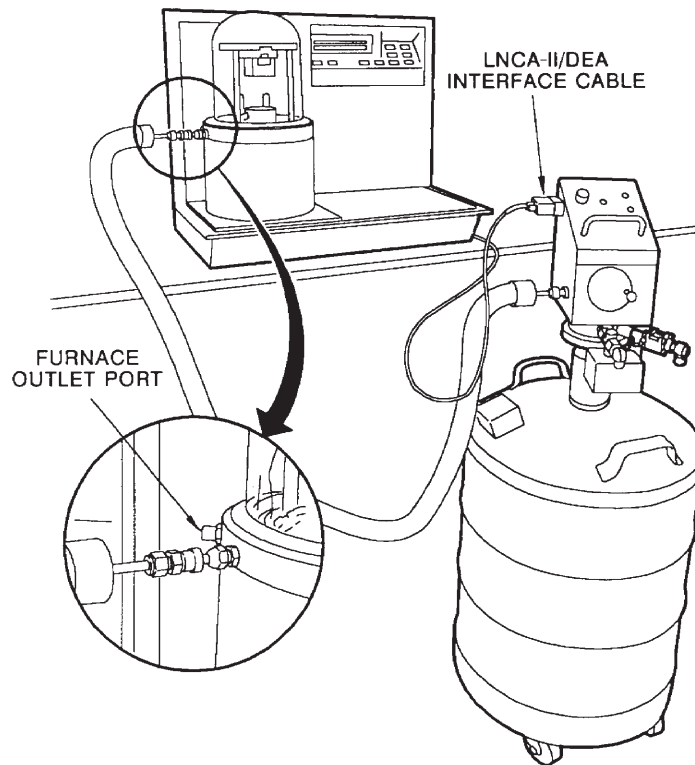

Figure 2.20
4. Connect the LNCA coolant transfer tube to the output of the LNCA feed valve, see Figure 2.20 on the next page.